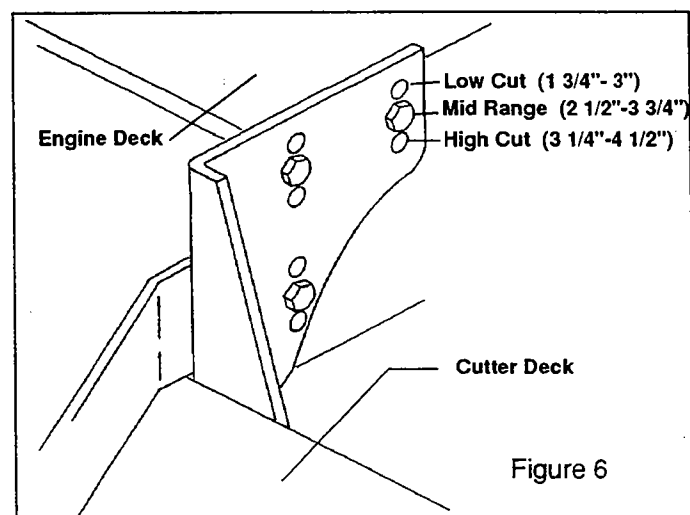

Figure 6
- a) Before beginning, determine which mounting holes are to be used to best suit the cutting height requirements of your customer. (see figure 6).